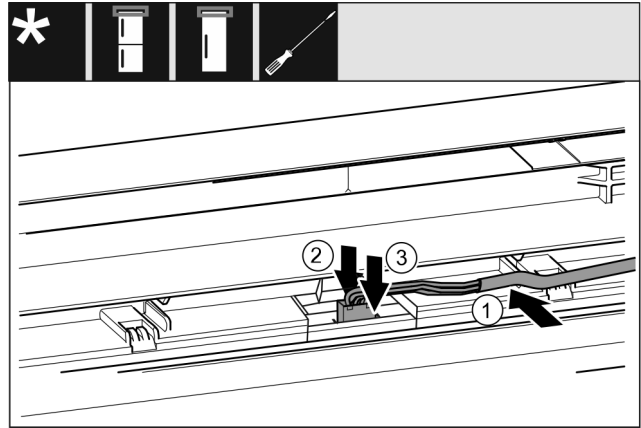

Fig. 42
- ▶ Insert the gray cable into the guide in the top door. *Fig. 42 (1)*
- ▶ Press back the latching lug. *Fig. 42 (2)*
- ▶ Engage the plug. *Fig. 42 (3)*